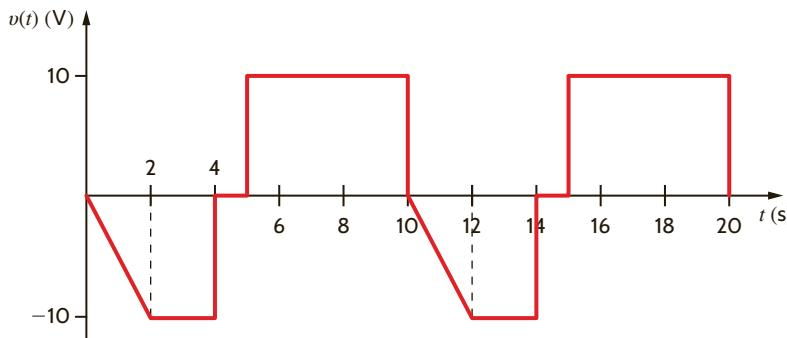

Figure E9.13
- E9.13** The voltage across a 2-W resistor is given by the waveform in Fig. E9.13. Find the average power absorbed by the resistor.